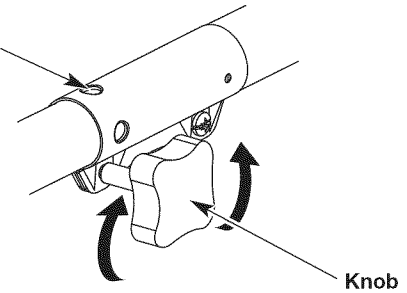
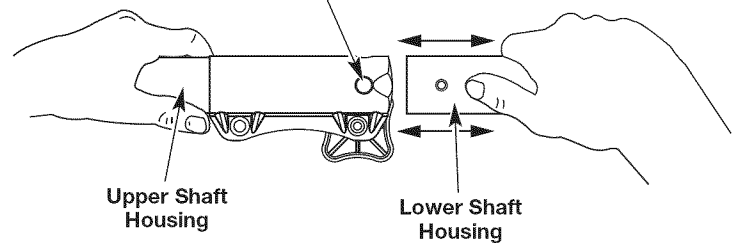

Fig. 4
Fig. 6
1. Turn the knob counterclockwise to loosen (Fig. 4).
2. While firmly holding the trimmer attachment or other attachment, push it straight into the Convertible™ coupler until the release button snaps firmly into the primary hole (Fig. 6).
3. Turn the knob clockwise to tighten (Fig. 4).
CAUTION: Before operating this unit, be sure that the release button is fully snapped into the primary hole (Fig. 6), and that the knob (Fig. 4) is securely tightened.
For decorative edging with the line head trimmer attachment, lock the release button of the attachment into the 90° hole (Fig. 4).
3. While firmly holding the upper shaft housing, pull the trimmer attachment or other attachment straight out of the Convertible™ coupler (Fig. 6).